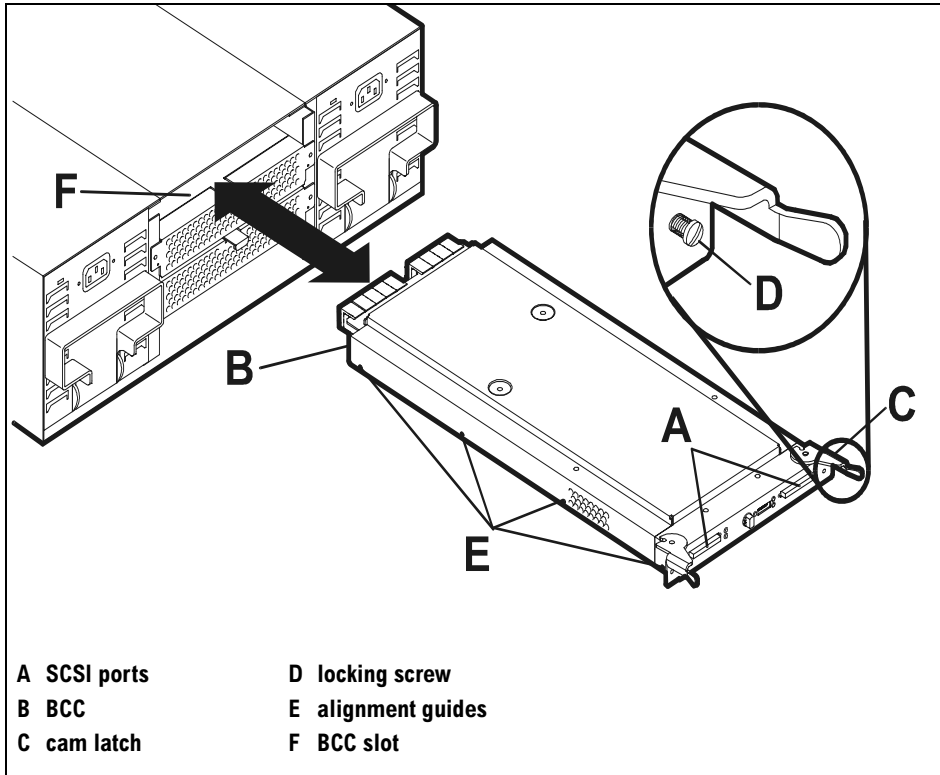

Figure 27 BCC Installation
3. Open the BCC cam latches (C in Figure 27) by pulling them away from the center.
4. Align the BCC guide screws (E) with the slot notches, and insert the BCC into the top slot at the back of the disk system. Stop pushing when the BCC meets the backplane.
6. Use a Torx T15 or flat-blade screwdriver to tighten the locking screws (D).